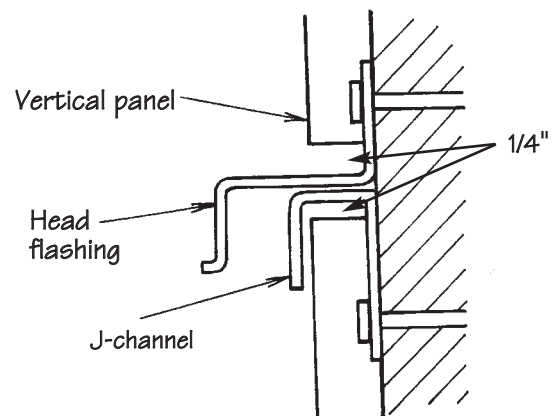

Figure 56.
- If it will take more than one course to span the height of the house, terminate the first course into an inverted J-channel (Fig. 56), allowing 1/4" for expansion. Install head flashing on top of the J-channel and begin the second course leaving 1/4" gap at the head flashing.